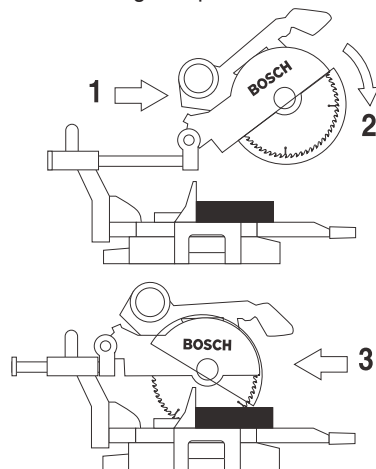

Figure 31. Slide Cut
3. Grasp the switch handle and pull the head assembly away from the fence, until the blade clears the workpiece or to its maximum extension if blade cannot clear the workpiece (Figure 31).